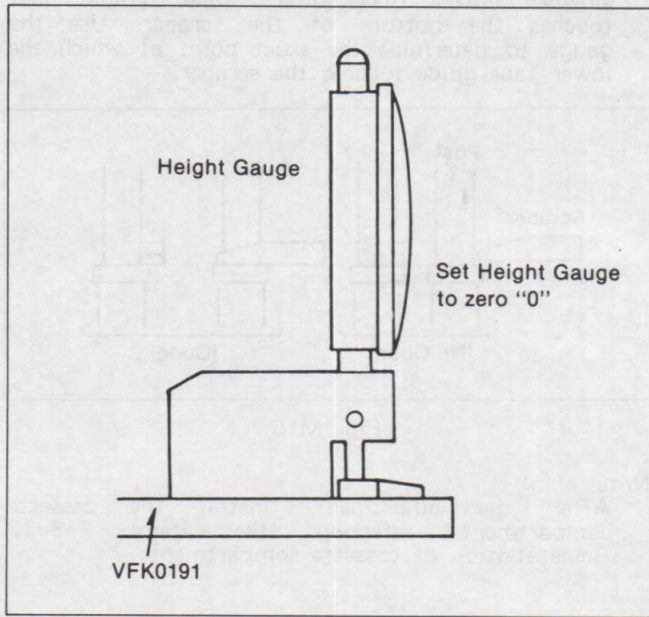

Fig. M17
- Place the Reel Table Height Gauge on the Post Adjustment Plate and set the gauge to zero "0" as shown in Fig. M17.